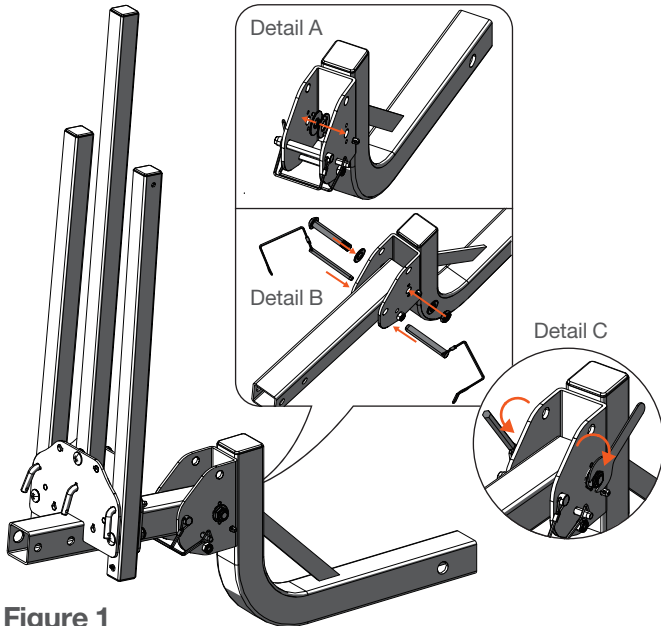

Figure 1
Remove security pins from shank (3). Insert spacers (9) into the inside of hitch mounting shank (3) as shown in Figure 1, Detail A. After spacers are inserted, place the main body rack (1) into shank (3) and secure with the two security pins (previously removed) and shank bolt (12) as shown in Detail B. Tighten bolt using wrenches provided (14,15). See Detail C.